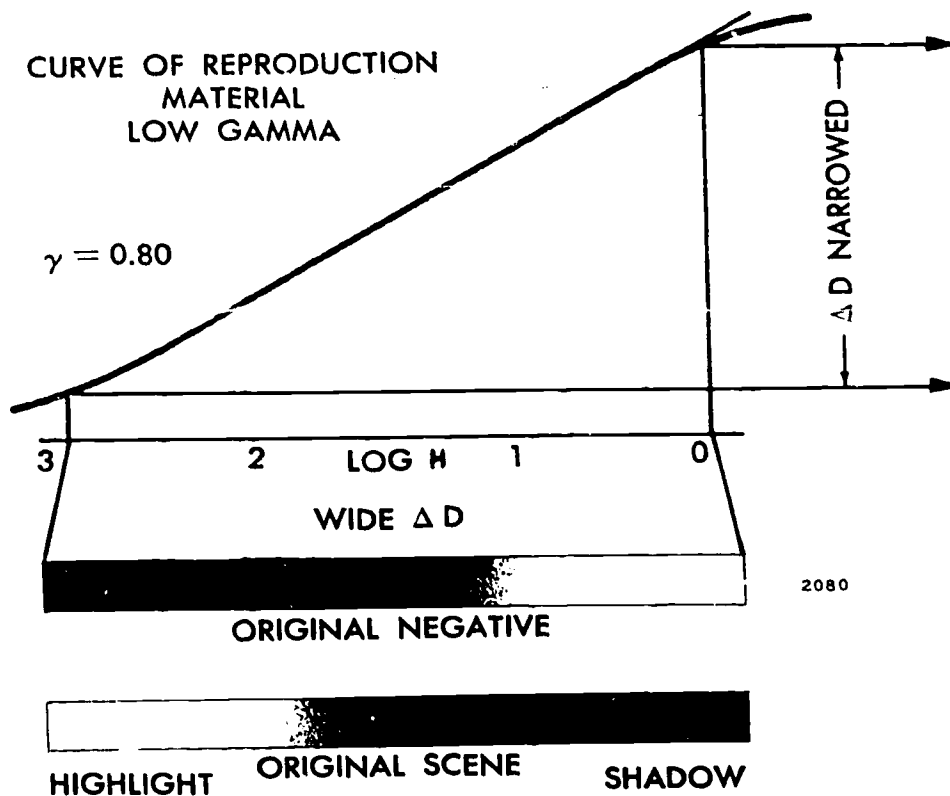

Figure 2-23. Wide ΔD .
The scene represented in figure 2-23 contains a wide brightness range and requires processing to a low gradient so that the range of tones can be accommodated on the straight-line portion of the printing material. The delta density of the reproduction is compressed by this treatment. A comparison of the output ΔD of the three illustrations shows that they are all very near to each other. Thus, both short-scale and long-scale scenes can be improved through
7. The scene represented in figure 2-23 contains a wide brightness range and requires what kind of processing?